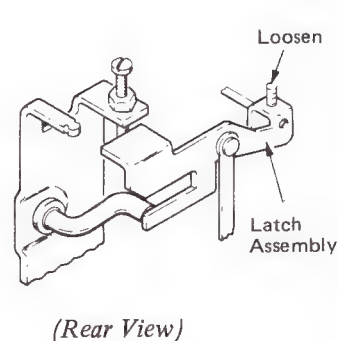
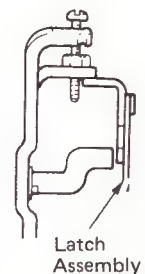

Figure 1
Figure 2
9. Loosen carrier return latch assembly setscrew and move latch assembly toward center of machine (Figure 1) and pivot up as shown (Figure 2).